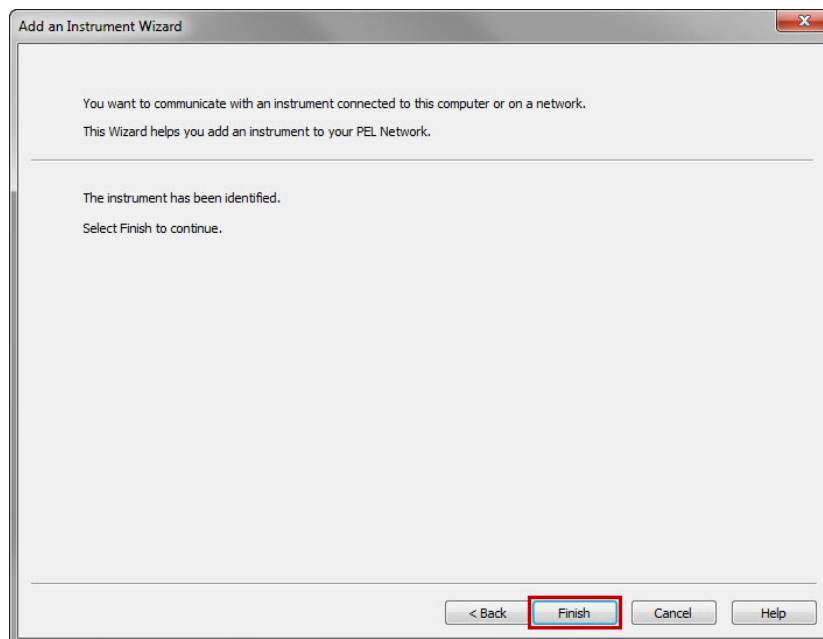

Figure 44
- If a successful connection was established, the Finish button will be enabled. Click **Finish** to exit the Wizard (see Figure 44).